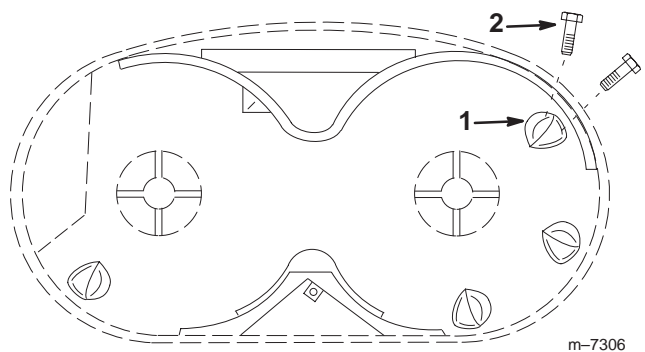

Figure 5
1. Install the kicker plates with holes toward the top of the deck using eight phillips head screws (#8 x 5/8 inch). The screws come from the top, down through the deck, and into the kicker (Fig. 5).
2. The long slope of the kickers must be face inward as the kickers placed in clockwise fashion (Fig. 5).